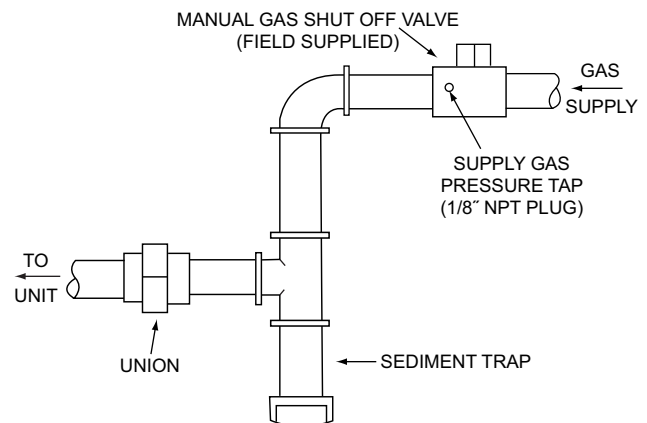

Fig. 7 — Field Gas Piping
2. Connect a pressure gauge to the supply gas pressure tap, located on the field-supplied manual gas shut off valve (see Fig. 7).